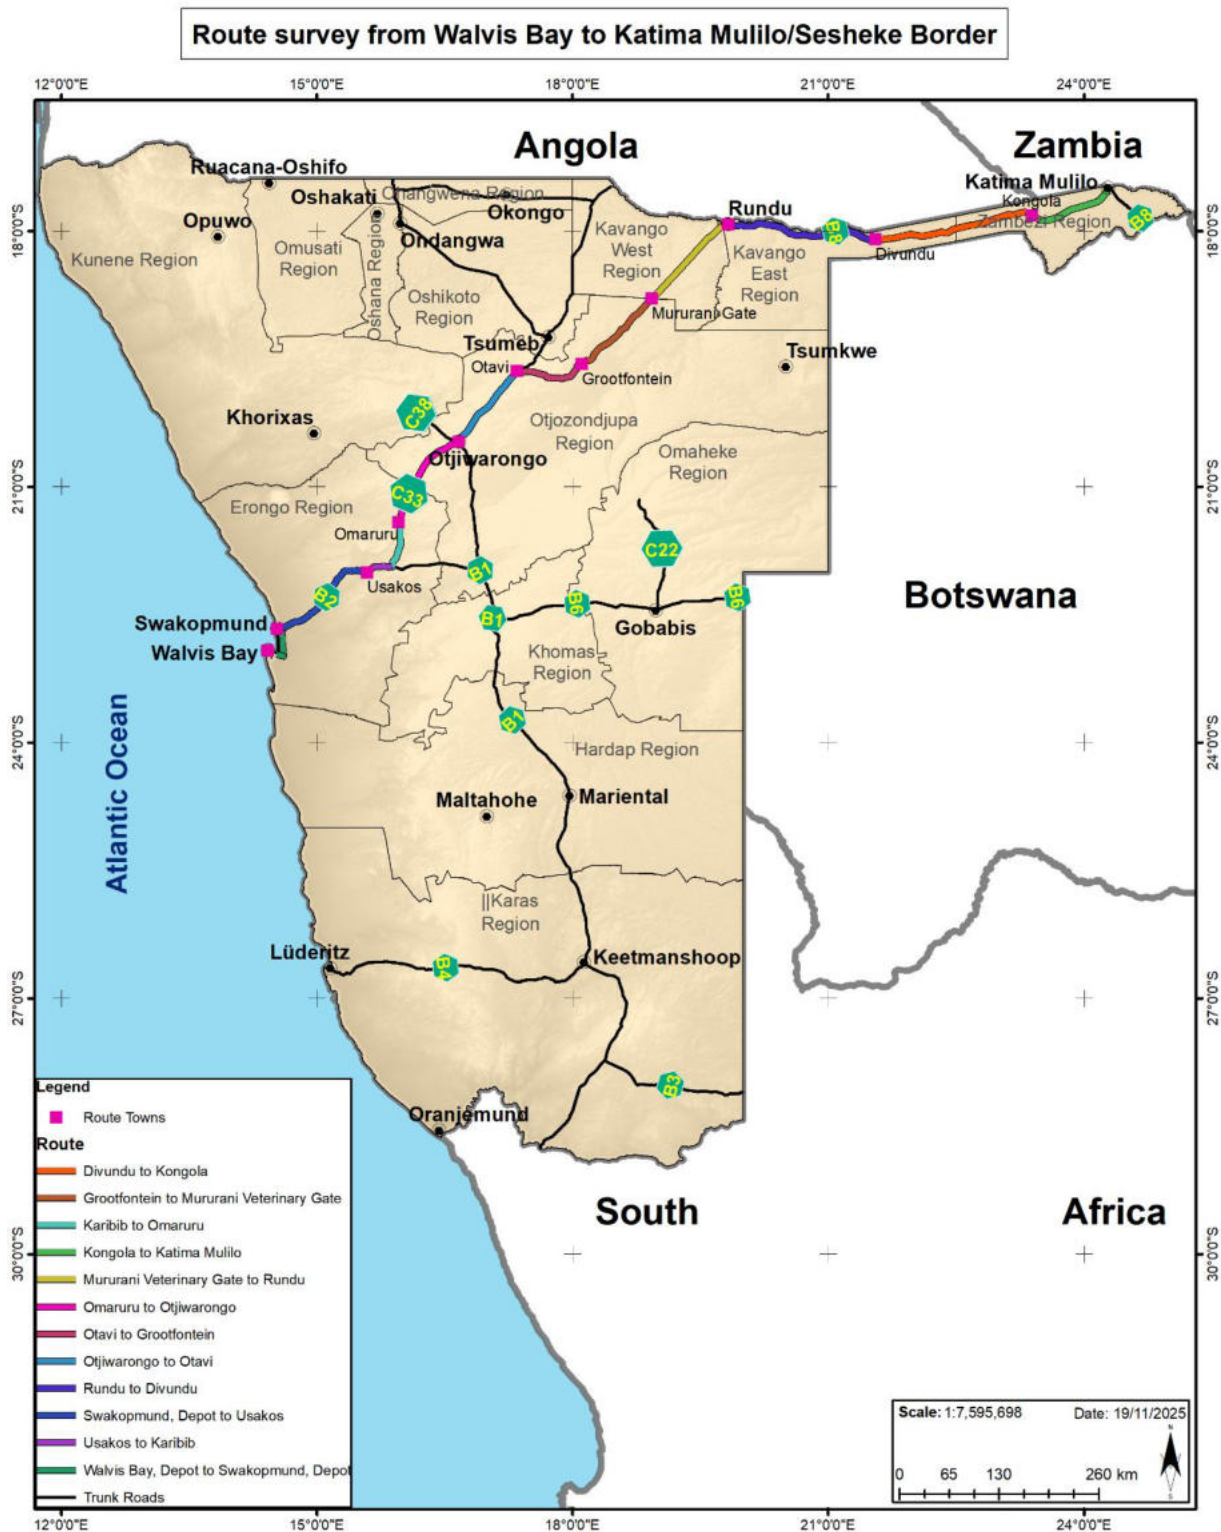

Figure 1: Route from Walvis Bay to Katima Mulilo border
- Route Planning: Pre-define and approve the most efficient and secure route: typically, Walvis Bay → Usakos → Otavi → Rundu → Kongola → Katima Mulilo → → Wenela Border Post → Zambia (See Figure 1 below).